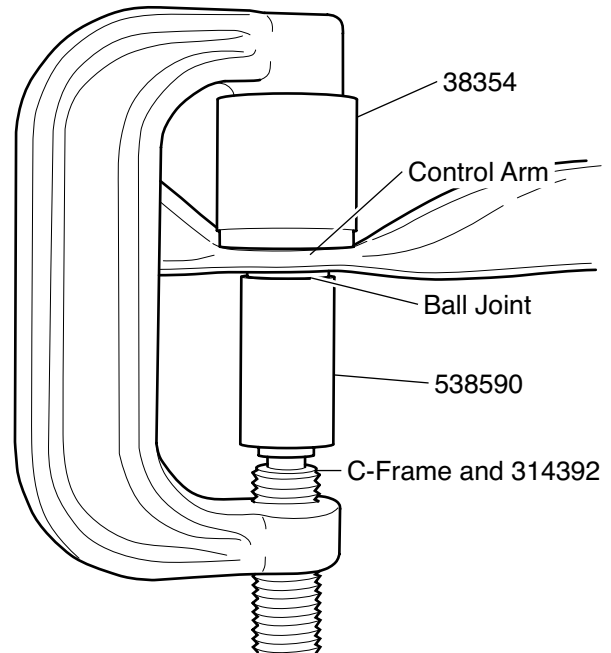

Figure 1. Ball Joint Removal
3. Position 38354, 314392 and the C-Frame as shown in Figure 1.